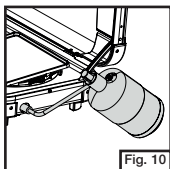

Fig. 10
- Propane cylinder correctly installed. (Fig. 10)